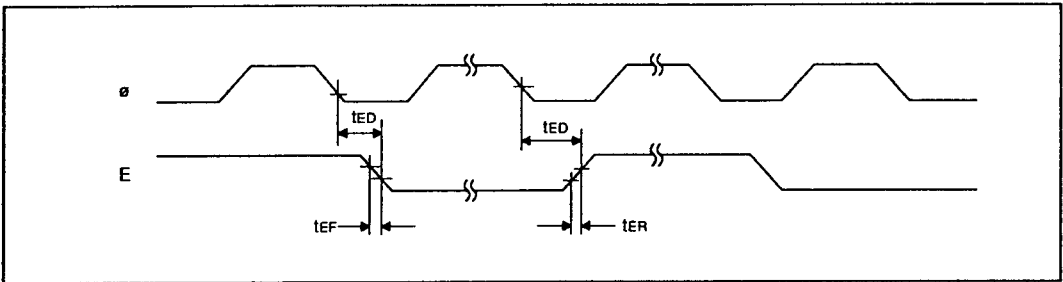

Figure 19-12 E Clock Timing
19.3.3 Clock Timing	Figures 19-12 and 19-13